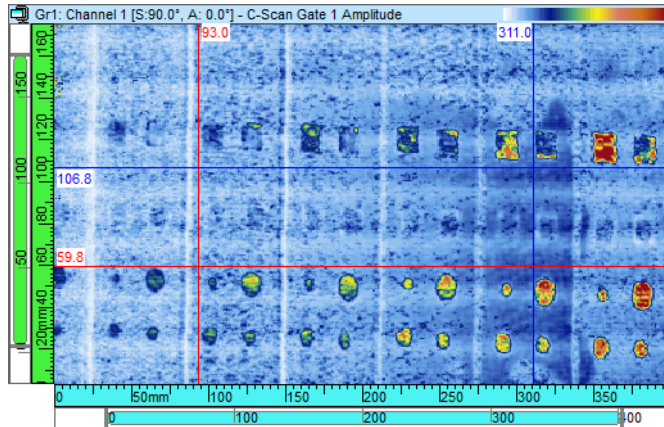

Figure 7-42 The Binarizer cursors
- Place the red and blue cursors (by double-clicking with the left and right mouse buttons) in order to draw a rectangle over a zone which will be used as the reference area. See Figure 7-42 on page 380.